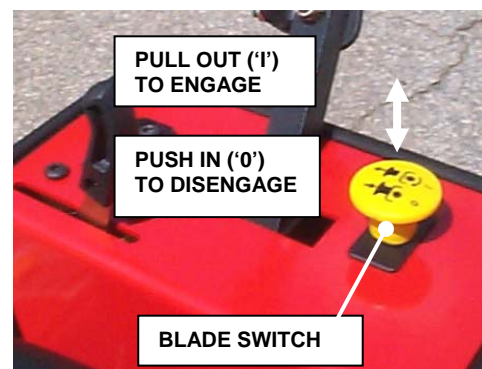

FIGURE 1.7
- 2. Make sure blade switch is pushed in to its off ('0') position. See Figure 1.7.
2. Be sure Blade Switch is pushed in to its off ('0') position. See Figure 1.7.